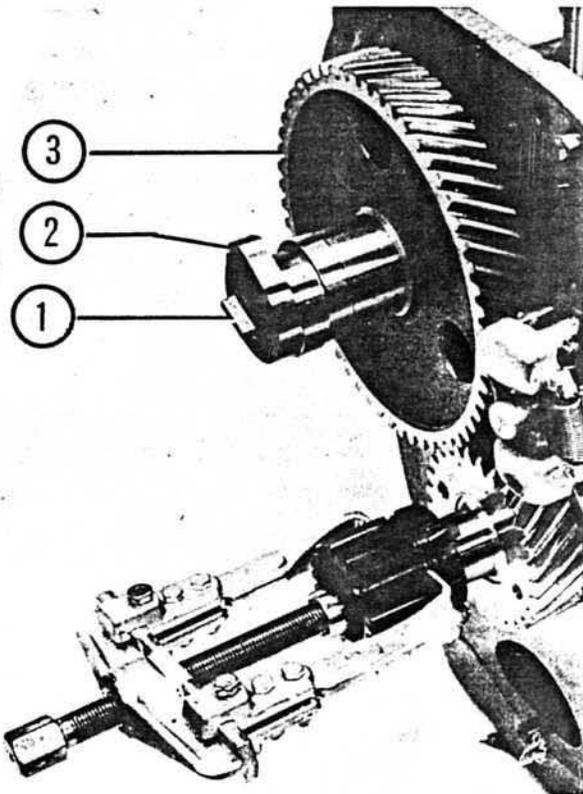

Fig. 34. Removing the gear.
4. Remove the flange bolt (1), Fig. 34. NOTE. Left-hand thread.
5. Pull off the cam disc (2) and the gear (3) from the shaft. Use a three-arm universal puller.
4. Then pull off the gear, see Fig. 34.